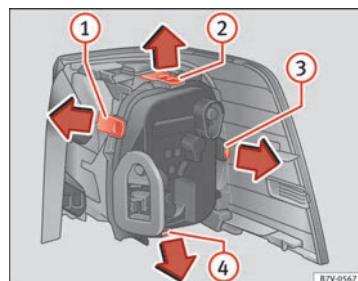

Fig. 215 Tail lights on bodywork: Remove the lamp holder ① to ④: Attachment tab
9. To release the lamp holder, press on the attachment tabs ⇒ Fig. 215 ① to ④ in the direction of the arrow.